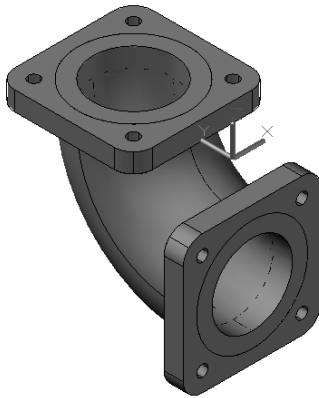

Figure 26-132 Resulting model after Step 12
16. Similarly, create the flange for the other face of the pipe. The resulting model should be similar to the one shown in Figure 26-132.